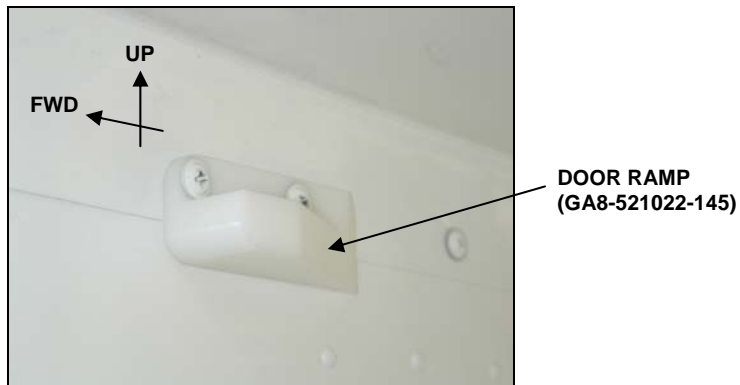

Figure 15: Installation of the new door ramp.
37. Unscrew and remove the existing door ramp and install new door ramp (P/N GA8-521022-145) using existing hardware. Figure 15 shows the correct installation of the new door ramp.